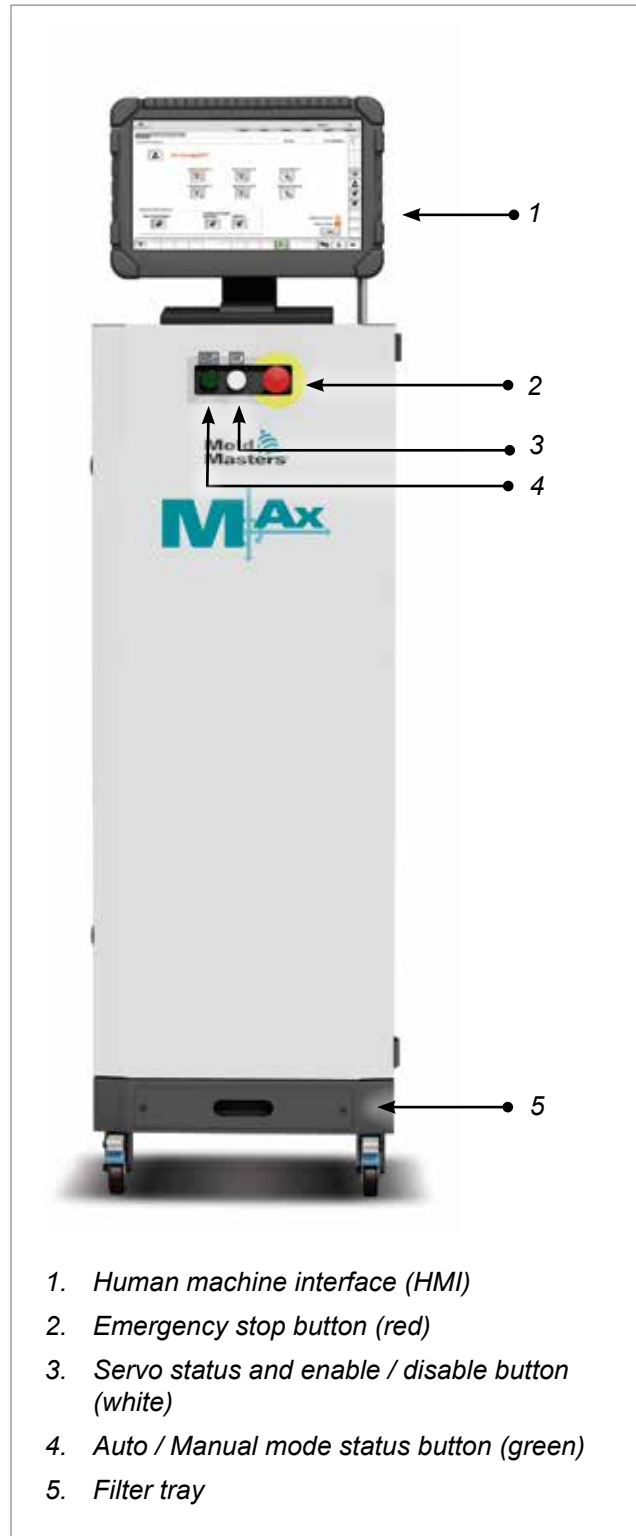

Figure 4-1 M-Ax controller front
2. Servo controller: Manual and Auto buttons are operated by pressing the yellow Auto/Manual button located beneath the HMI. See “Figure 4-1 M-Ax controller front” on page 4-2.